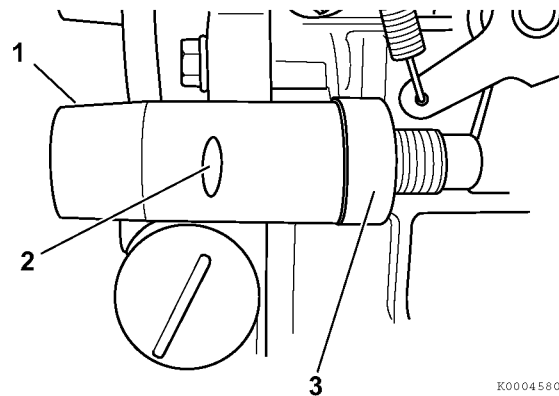

Figure 7-22
3. To remove the tamper-proof cover from the fuel limiter, use a hacksaw or a cut-off wheel to carefully make a small slot (2, **Figure 7-22**) in the side of the tamper-proof cover (1, **Figure 7-22**).
Note: Be careful not to damage the cylinder block boss (3, **Figure 7-22**) when removing the tamper-resistant cover.